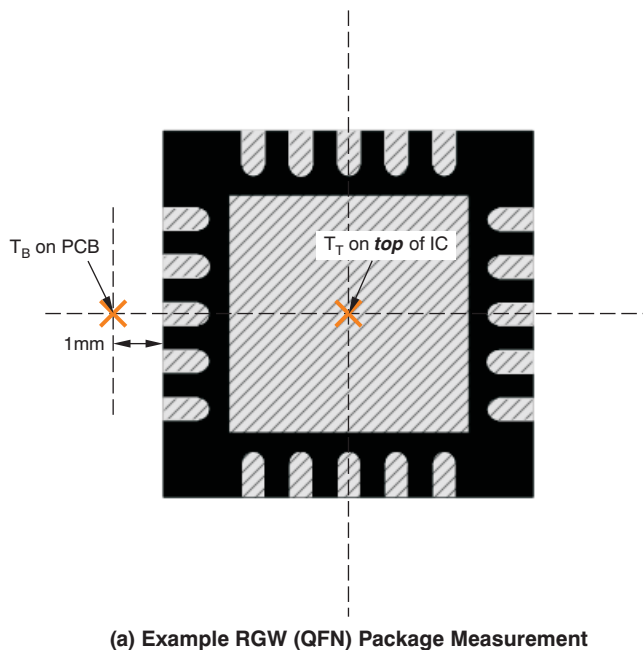

Figure 45. Measuring Points For T_T And T_B
T_B is the PCB temperature measured 1 mm away from the IC package *on the PCB surface* (see Figure 45). (3)